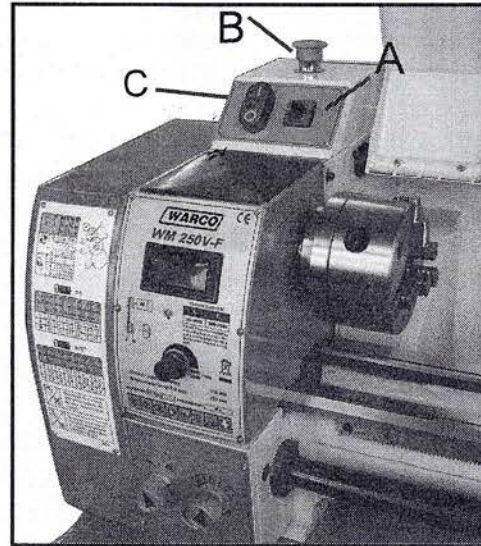

Fig. 11
1. Change-over Switch (A, Fig. 11)
2. Emergency Button Switch (B, Fig. 11)
3. ON/OFF switch (C, Fig. 11)